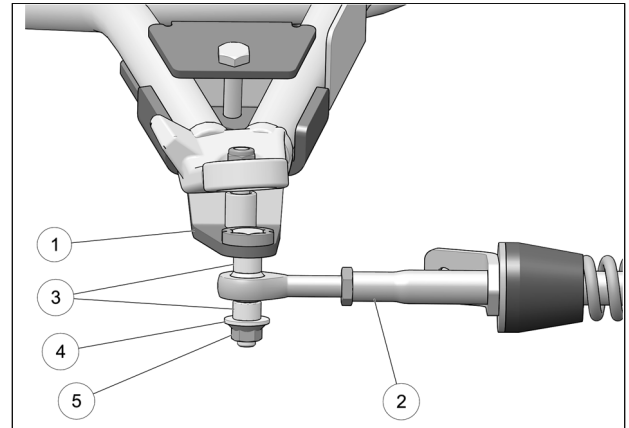

Fig. 18
- Attach the stabilizing rod (**2**) to the anchor bracket (**1**), using the two spacer bushings (**3**), flat washer (**4**) and nut (**5**). Torque to 70 N•m [52 lb•ft]. Refer to Fig. 18